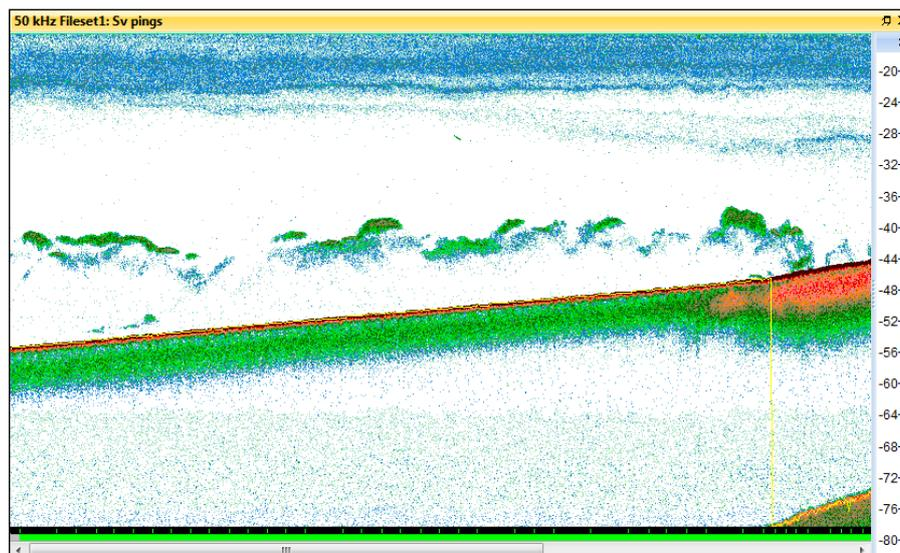

Figure 14: The sounder detected bottom line on the Sv pings echogram is shown in yellow.
7. Toggle the checkbox for **Fileset1: line data sounder-detected bottom** and click **OK**. This closes the Variable Properties dialog box and displays the sounder detected bottom line in the echogram. This is shown in Figure 14.